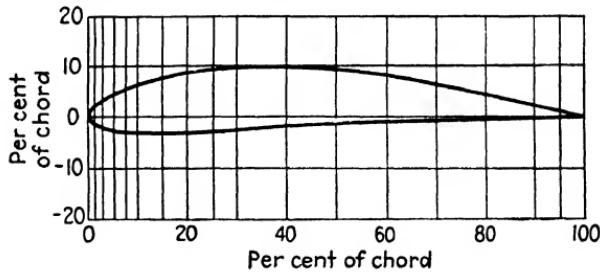

Fig. 313.—Airfoil section: N.A.C.A. 4412 is used on the Luscombe Model 50 two-place monoplane.
60. Complete a table of data, accurate to the nearest tenth of an inch, for a 20-in. chord of airfoil section N.A.C.A. 4412 (see Fig. 313).
61. Draw a nosepiece (0–15 per cent) for a 4-ft. chord of airfoil section N.A.C.A. 4412 (see Fig. 313).